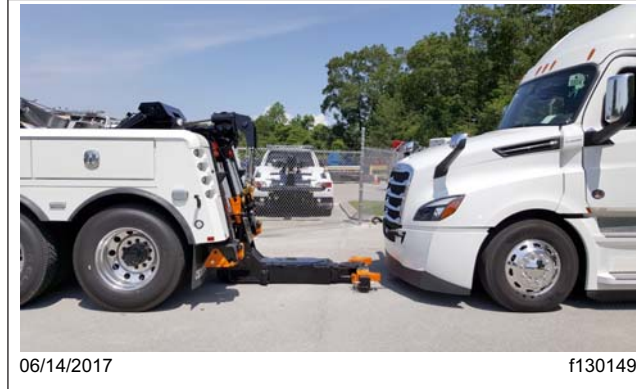

Fig. 3, Positioning the Stinger Assembly
4. Lower the stinger assembly so that it is level and approximately 1 inch (0.3 cm) off the ground. Back the tow truck so that the crossbar with lift adaptors is within 6 inches (15 cm) of the Aero bumper. See Fig. 3.